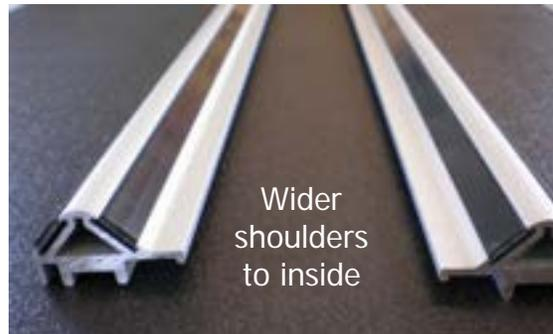

Fig. 5-2
**NOTE:** The extrusions have a wider shoulder on one edge of the track. This shoulder is to be placed toward the inside of the table over the edge of the black plastic tabletop. (Fig. 5-2 & Fig. 5-3)
the frame, using six (6) M6 x 12mm connector screws, with wide shoulders to the inside as shown in Fig. 5-2 & Fig. 5-3. **Do not tighten screws at this time.** They need to be loose to accommodate adjustments in Step 5-6.